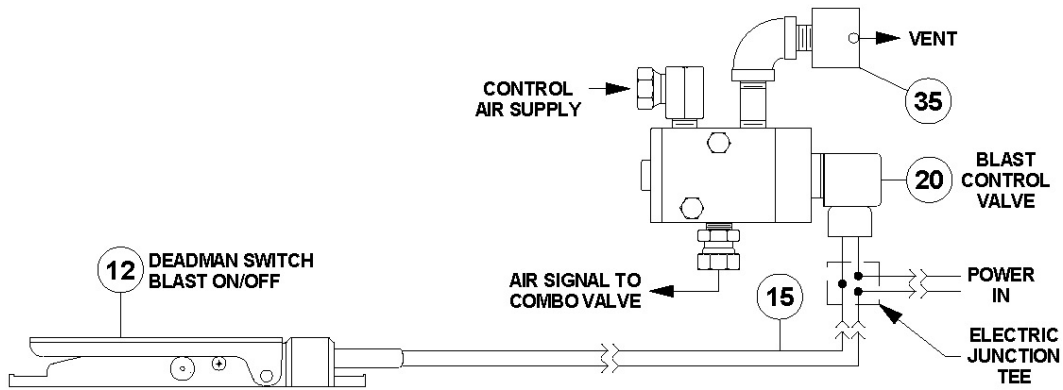
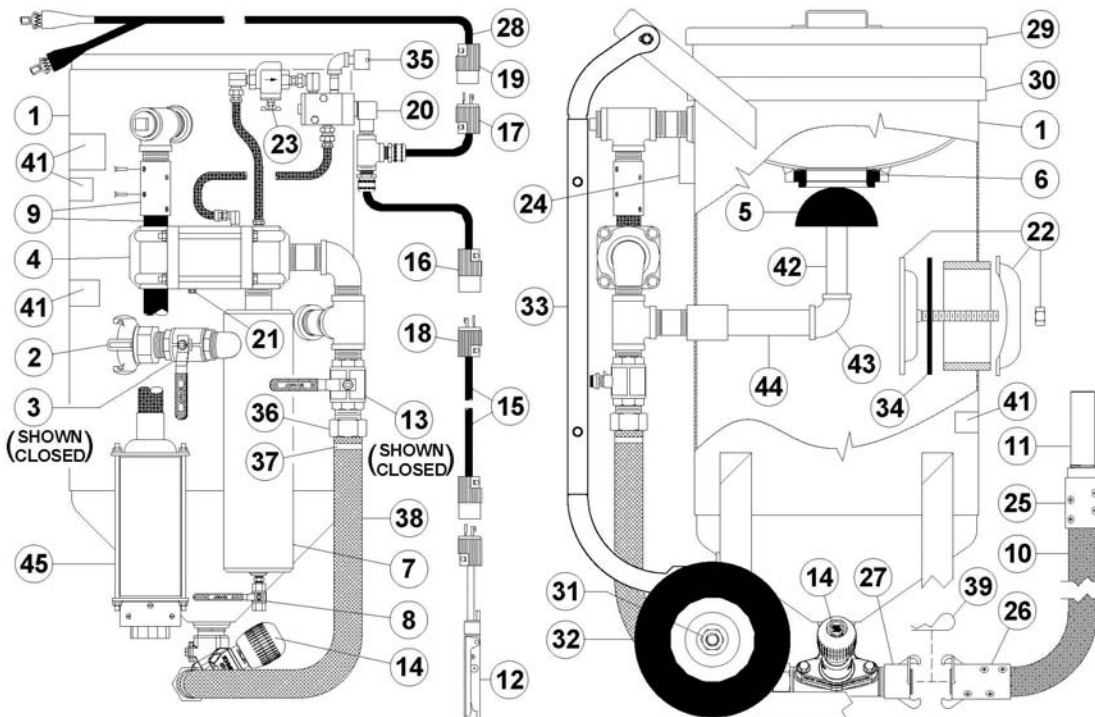

Figure 5.4 – MV3 Valve Electric Deadman Blast Control System
Figure 5.5 – MV3 Valve Abrasive Blaster with electric blast controls
5.8.2. Electric Deadman System: When the electric deadman lever (#12) is pressed down it closes the electric circuit and supplies electric current to the control valve (#20). The control valve opens and sends air signals to the ComboValve® (#4) to begin blasting. When the deadman lever is released the electric circuit is turned off closing the control valve. The signal air vents from the breather (#35) and the ComboValve closes to stop blasting. See Figure 5.4, Figure 5.5 and the drawing in Section 9.3.
Figure 5.5 shows a MV3 Valve abrasive blaster with the electric deadman system. The popup valve, MV3 Valve, and ComboValve operate the same as a blaster with a pneumatic blast control system. The difference is that the electric control system uses an electric control valve (#20) operated by the electric deadman switch as detailed in Section 5.8.2.